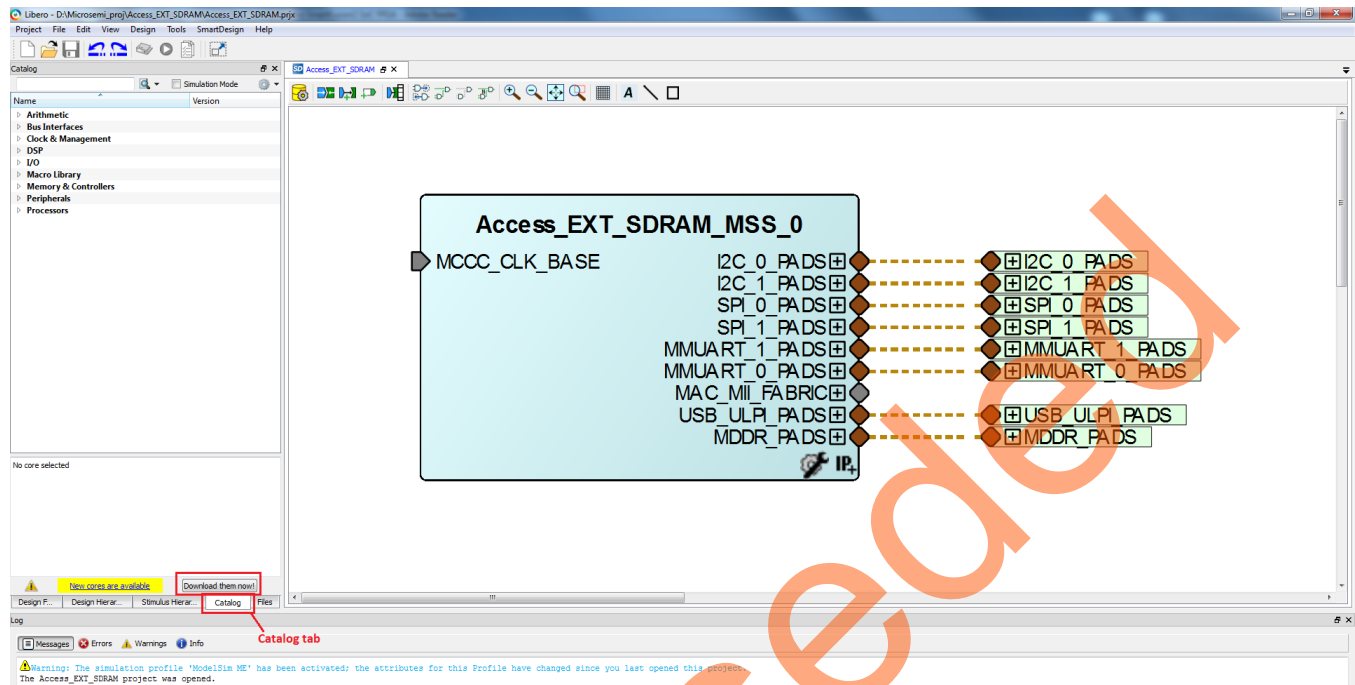

Figure 5. Updating the Catalog
- Click the **Catalog** tab, as shown in Figure 5. If a message is displayed “**New cores are available**”, click **Download them now!**, and download the latest versions of the IP cores.